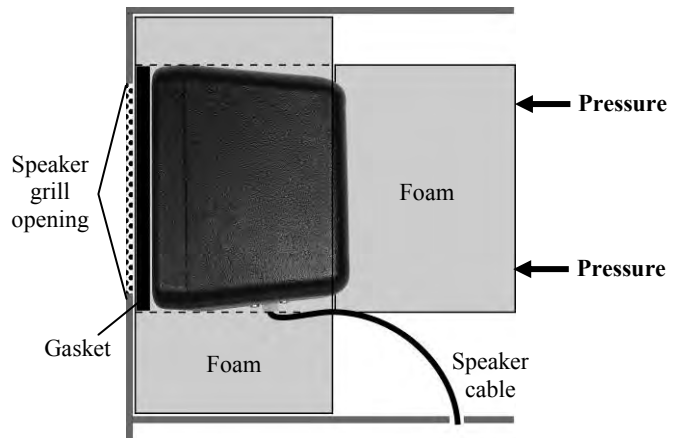

Figure 20. SP10 in speaker post, menu board or enclosure
- Position the speaker inside the speaker post or menu board, with the gasket centered against the inside of the speaker grill as shown in Figure 20. The cable connector can be on the bottom or on either side. Align the opening in the gasket with the grill opening.
- Place foam around the sides and back of the speaker as shown in Figure 20.